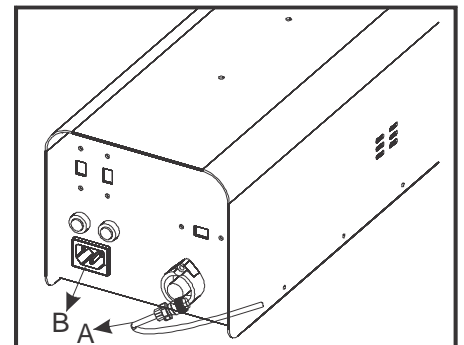

Fig. 7
Install the power cable coming from the illumination house to the power unit indicated by arrow A in Fig. 7.
(1). Connect the power cord to the AC Inlet indicated by arrow B in Fig. 7.